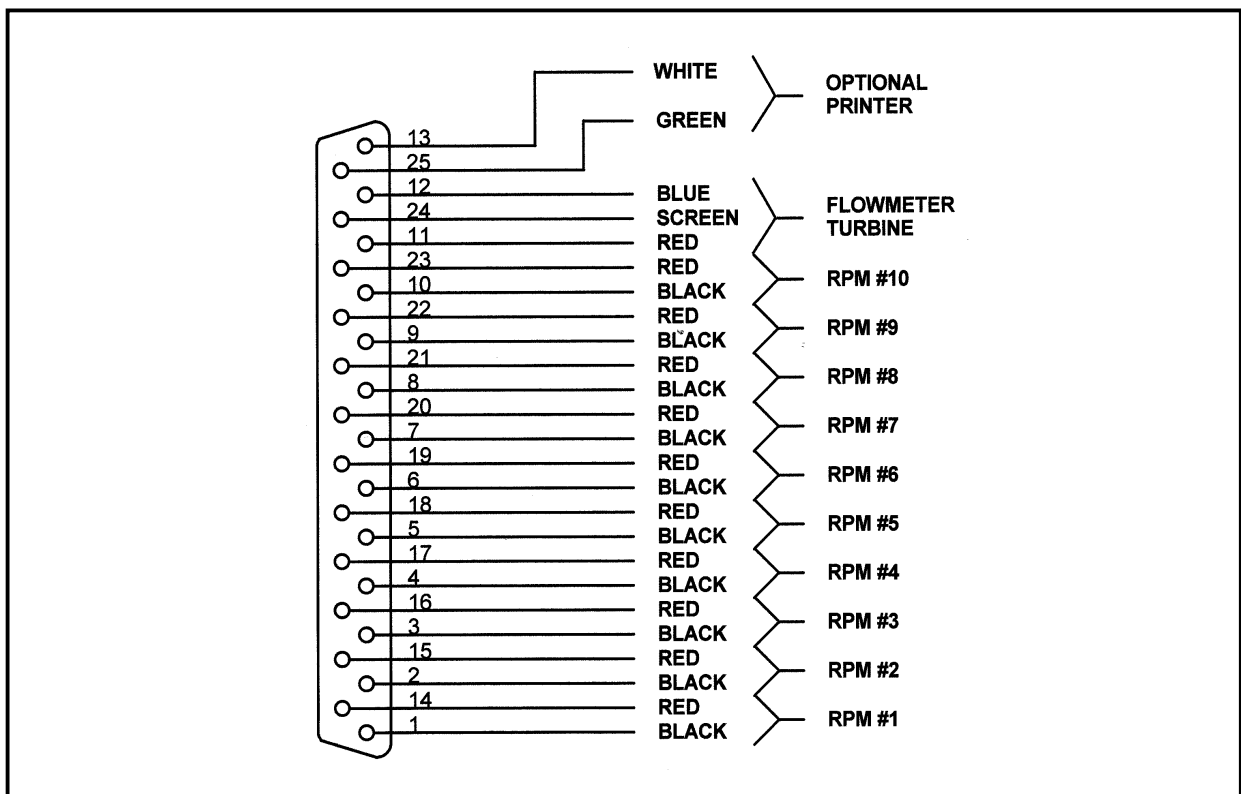

Fig. 4 – Pin Numbers on Application Monitor Input Connector
3. Replace the atomiser in its mounting if removed for steps (1) and (2). Do not tighten at this stage.
4. Fit a RPM transducer into the mounting bracket. Ensure that the two plastic bushes (EX356) are in position on either side of the bracket. For AU3000 and AU4000 installations with the EX198 mounting angle, the smaller end of each bush should fit into the hole in the bracket. For all other brackets, one bush should fit into the bracket and the other should be fitted to act as a washer with the smaller end away from the bracket. See Figs. 4 and 5.